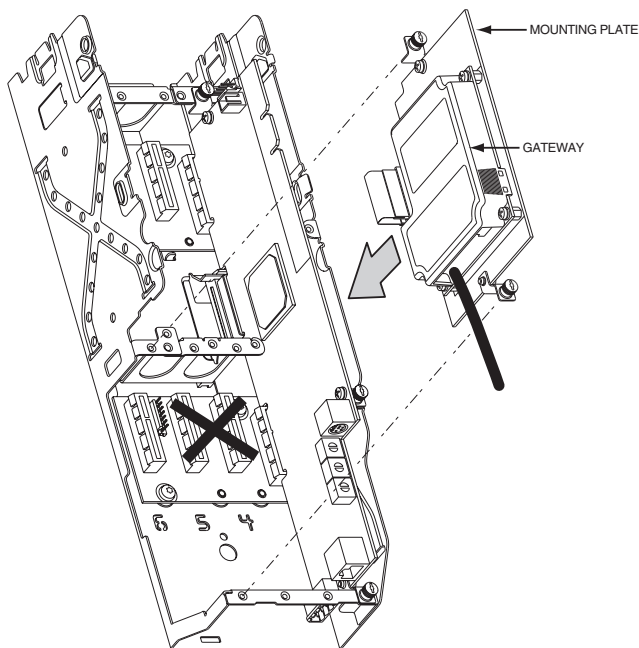

Fig. 22 — Mount COMM Card Plate to Drive
5. Mount the new COMM card and mounting plate and attach with the 2 screws removed in Step 4. See Fig. 22.